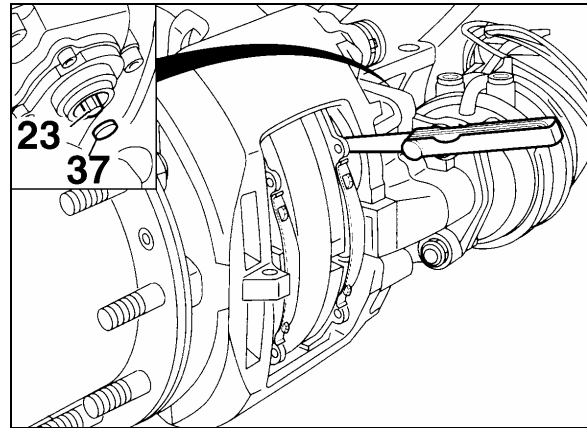

FIGURE 37: RUNNING CLEARANCE
- Insert a feeler gauge 0.028 inch (0.7 mm thickness) between tappet and pad back-plate (Fig. 37). Turn adjuster pinion clockwise until 0.028 inch (0.7 mm) clearance is achieved. Replace cap (37) (Prevost # 641313).
- To ensure a constant running clearance between the rotor and pads, the brake is equipped with an automatic adjuster unit. When the pads and rotor wear, the running clearance between the pads and rotor increases. The adjuster (23, Fig. 37) and turning device turn the threaded tubes by the amount necessary to compensate the wear.